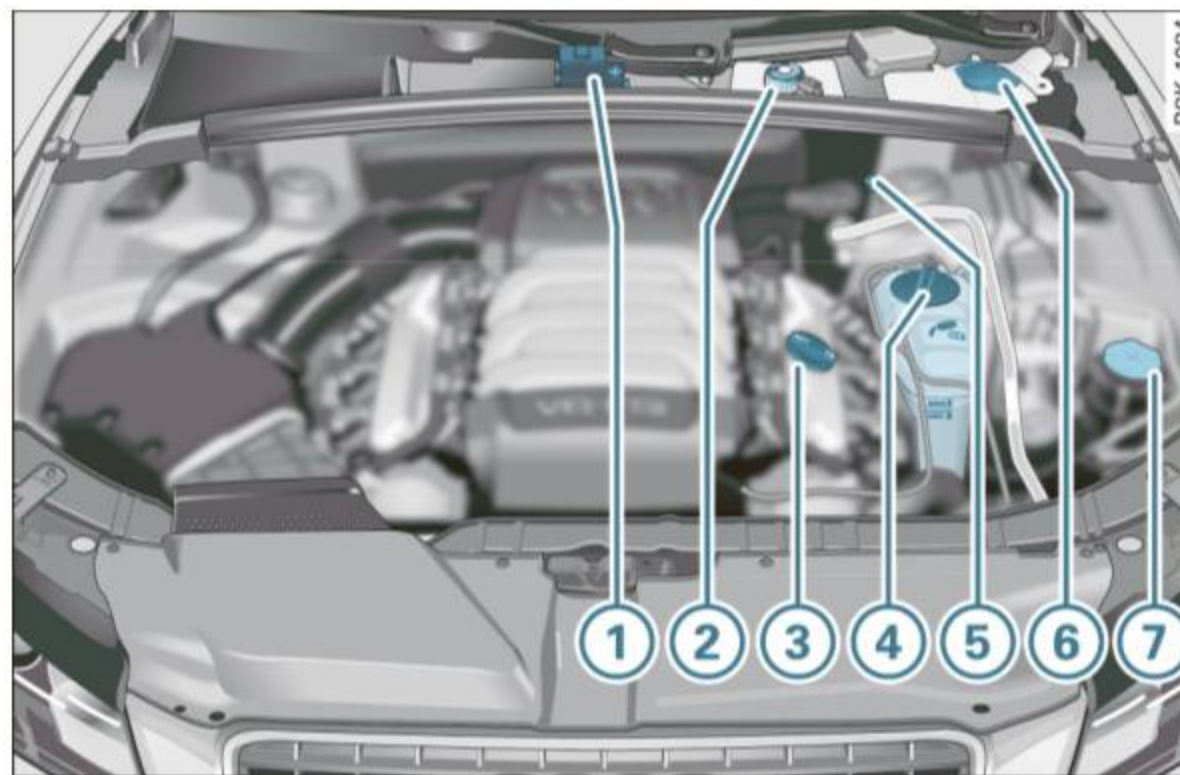

Fig. 212 Typical layout for containers and engine oil filler cap
①	Jump start point (+) under a cover	284, 326
②	Brake fluid reservoir (☉)	280
③	Engine oil filler cap (🛢)	275
④	Coolant expansion tank (🌊)	278
⑤	Jump start point (-) with hex head screw	284, 326
⑥	Windshield/headlight* washer container (🛢)	286
⑦	Power steering reservoir	238
The position of the engine oil filling hole ⇒ fig. 212 (item ③) can differ depending on the engine design. ▶